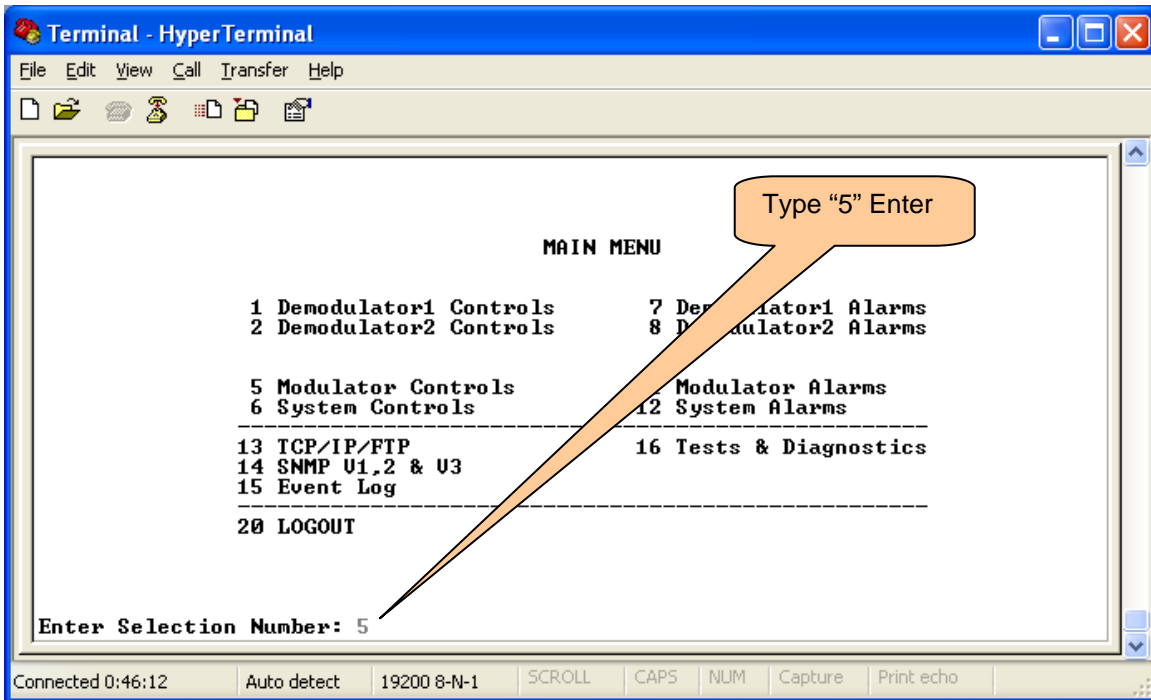
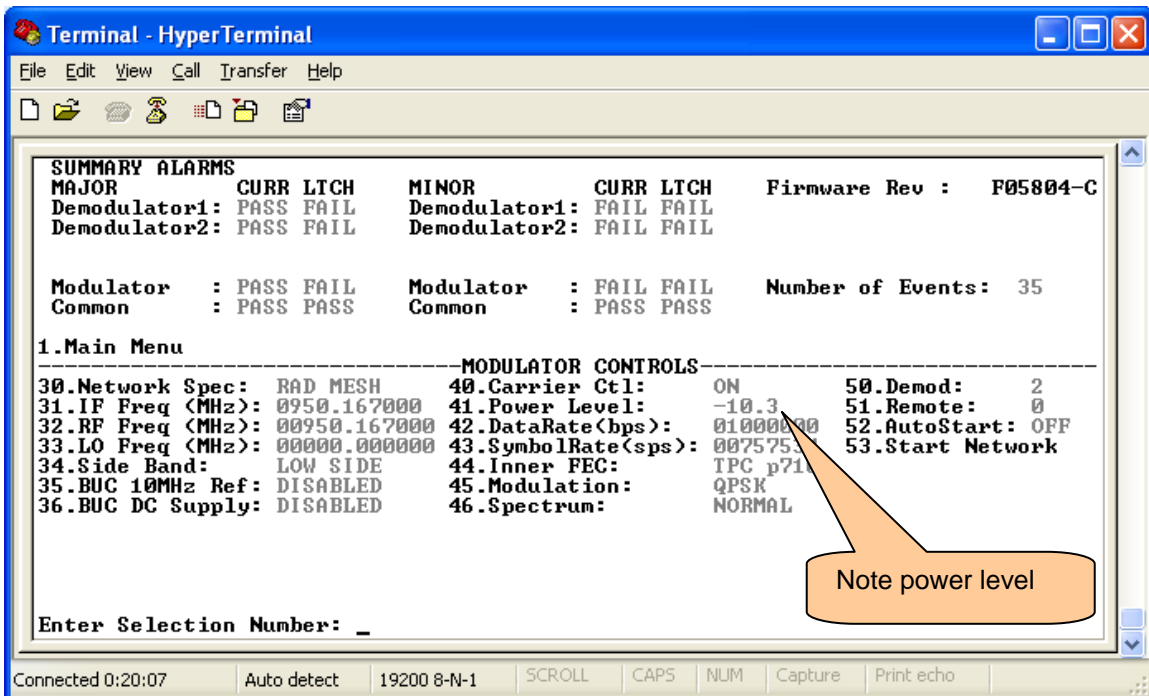

Figure 14 – Modulator Controls
Figure 17 – Output Power Level
- On the source gateway unit, set the output power level appropriately per the calculation to achieve an appropriate output based on the calculations of step 1 of 4.2.1 (Example 1 or 2). See Figure 14 through Figure 17.